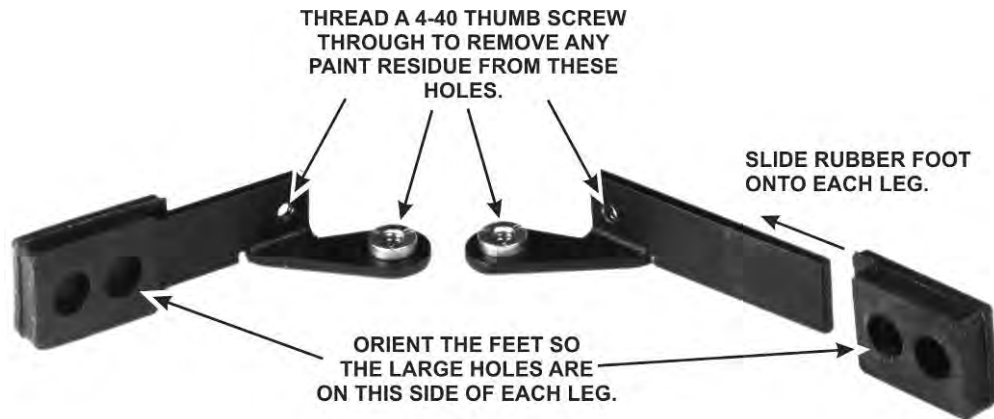

Figure 38. Preparing the Tilt Legs for Installation.
- Locate the two tilt legs and six rubber feet. Mount one rubber foot on each tilt leg as shown in Figure 38. The feet are held in place by friction. Be sure the feet are worked all the way onto each foot as shown.